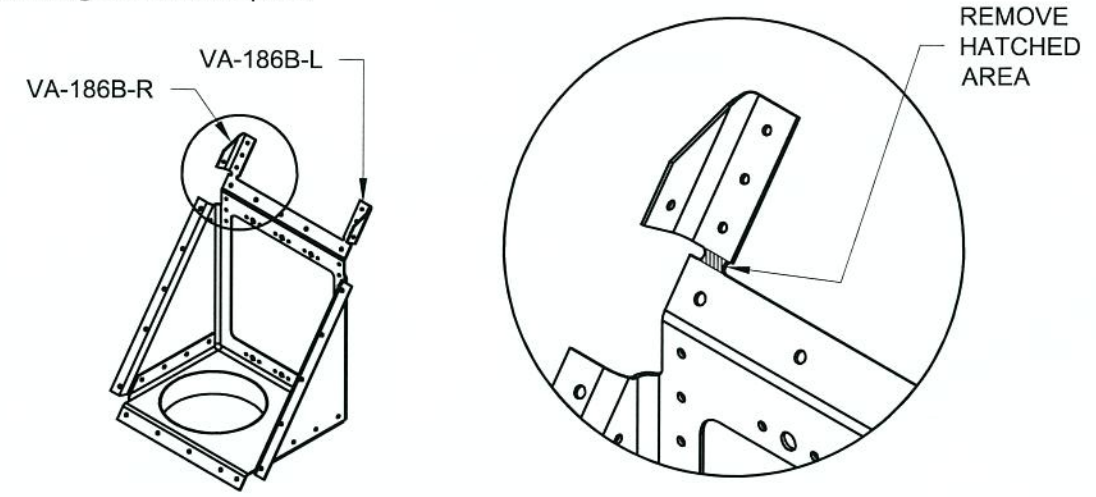

FIGURE 1: SEPARATING THE GUSSETS FROM THE OIL COOLER BOX
Step 1: Remove the VA-186B-L and -R Gussets from the VA-186A Oil Cooler Box as shown in Figure 1. Deburr the edges of all three parts.